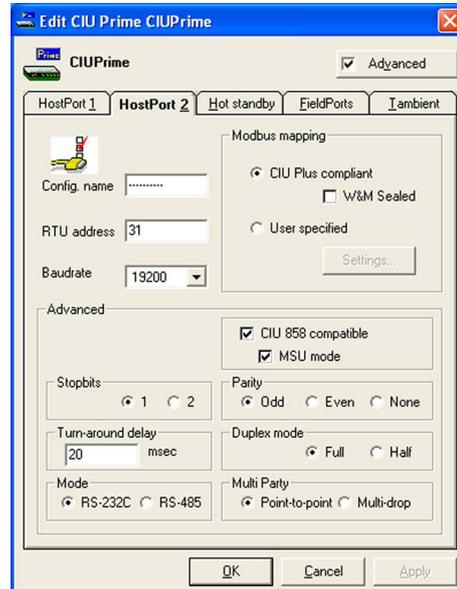

FIGURE 2-10
9). CIU emulation can be configured via CIU Prime host port 2 (see FIGURE 2-10).